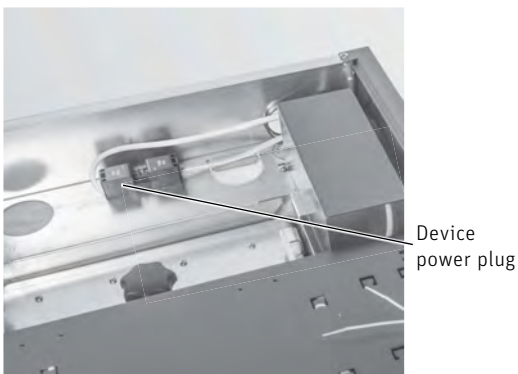

Fig. 120 Insert or connect the mains power plug
The Main power plug is located at the top rear of the heat exchanger cover – Fig. 120. The electrical connections are located in or behind the control panel. The motherboard is located inside the control panel and the connection terminals on the outside on the control panel cover (screwless cage-spring-type terminals).
- ▶ Insert or connect the main power plug – Fig. 120.